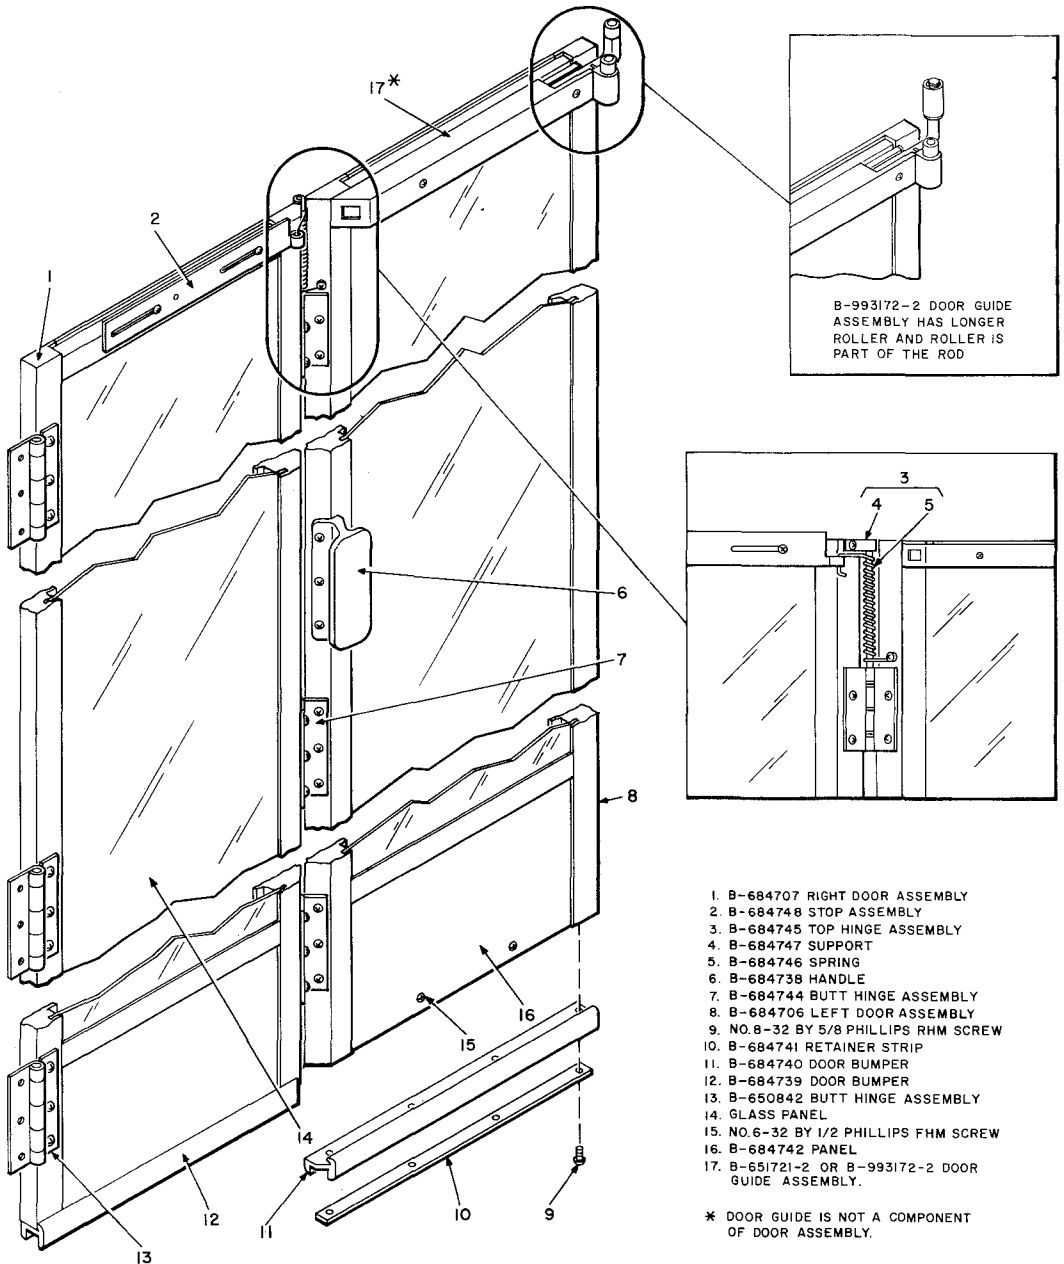

Fig. 25—B-684705 Door Assembly
DOOR REQUIREMENTS AND MAINTENANCE (See Fig. 25 for Replacement Parts)
4.39 In outdoor locations, the door shall be held open 2 to 3 inches when in the normal position. Ensure that maximum tension is obtained on spring in center of door (Fig. 25).
4.46 Replace damaged bumpers along bottom of door (Fig. 25).
4.51 The parts listed in Table D are not shown on Fig. 25, 26, and 27 but may be ordered as necessary.